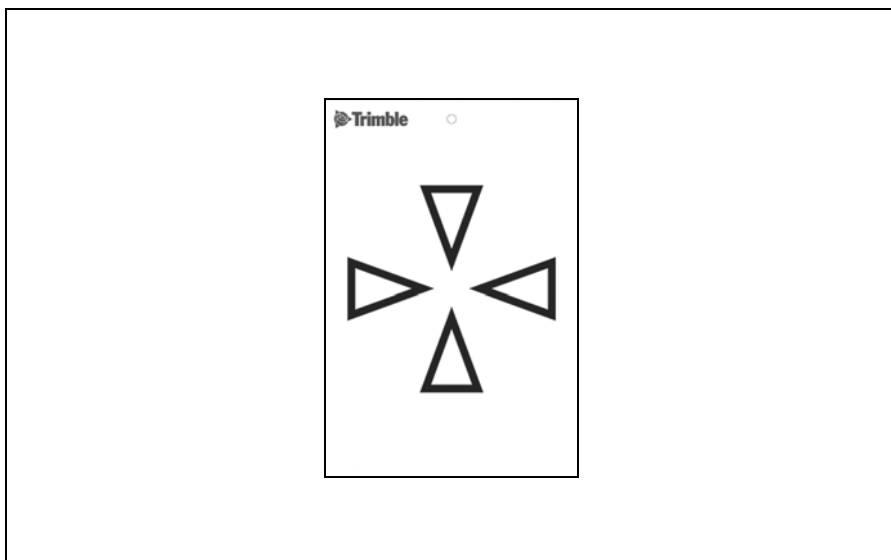

Figure 4.21 Laser adjustment plate
1. Setup the Laser adjustment plate 25–50 meter away, facing the Trimble S3 Total Station, see Figure 4.21.